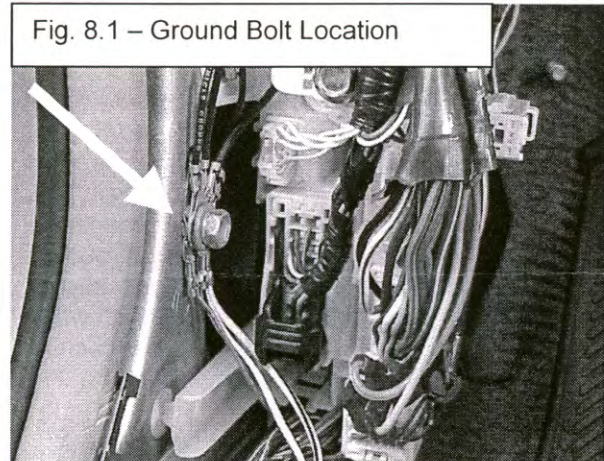

Fig. 8.1 – Ground Bolt Location
- 7.1 Locate existing bolt or screw that is in contact with the vehicles metal body in the area of the fuse box. (See Fig. 8.1)